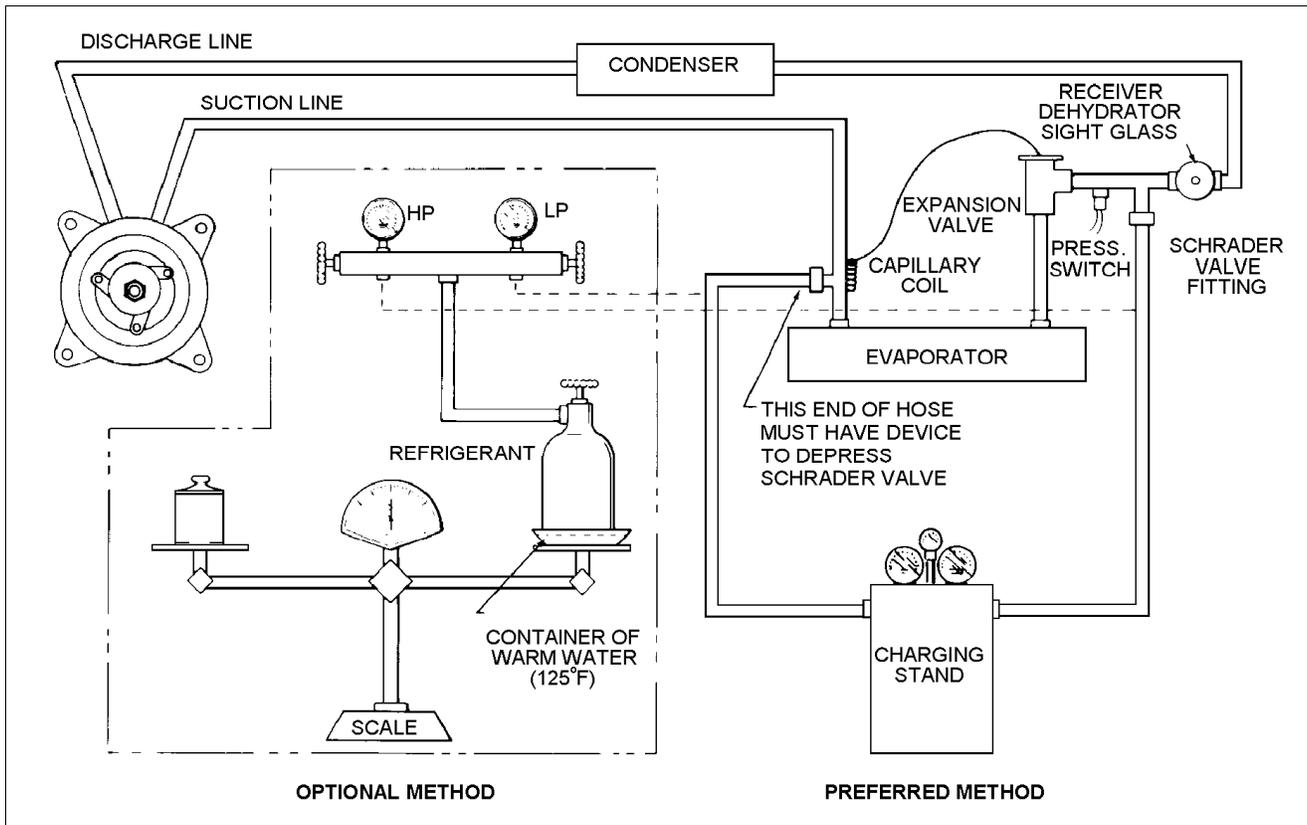

Figure 21-9a. Optional Charging Hookups (Typical)
- (1) With the system evacuated as outlined in the paragraph "Evacuating the System," connect the refrigerant charging hose to the manifold (refer to Figure 21-9a) and purge the charging hose of air.
- (2) Place the refrigerant container on a scale to observe the amount of refrigerant entering the system. Open the high pressure valve and add as much refrigerant as possible.
- (3) Close the high pressure valve, start the engine and operate it at 900 to 1000 rpm.
- (4) Operate the air conditioner and set controls to maximum cooling.
- (5) Open the low pressure valve and complete charging the system.
- (6) Close the low pressure valve after two pounds of refrigerant have been added to the system.
- (7) With the system still operating, observe the sight glass in the top of the receiver / dehydrator by removing the plastic plug.
- (1) Remove the access panel at the rear of the cabin and remove caps on service ports.
- (2) Connect a charging hose to a refrigerant cylinder and also to the Schrader valve fitting on the suction line. (Refer to Figure 21-9a.)
- (3) Purge the charging hose by allowing a small amount of refrigerant gas to escape at the Schrader valve fitting.
- (4) Start the engine and operate at 1000 rpm and turn the air conditioner on maximum cool.
- (5) Remove the plastic plug from the sight glass in the top of the receiver-dehydrator.
- (6) With a low refrigerant charge in the system, bubbles will be seen passing thru the sight glass when the system is operating.
- (7) Open the valve on the refrigerant cylinder.
- (8) Allow refrigerant to flow into the system until the bubbles disappear from the sight glass.
- (9) Close the refrigerant valve and check to see that the sight glass remains clear during system operation.
- (10) When the sight glass stays clear of bubbles, add an additional 1/4 pound of refrigerant to the system. (Engine should be operating at 1000 rpm.)